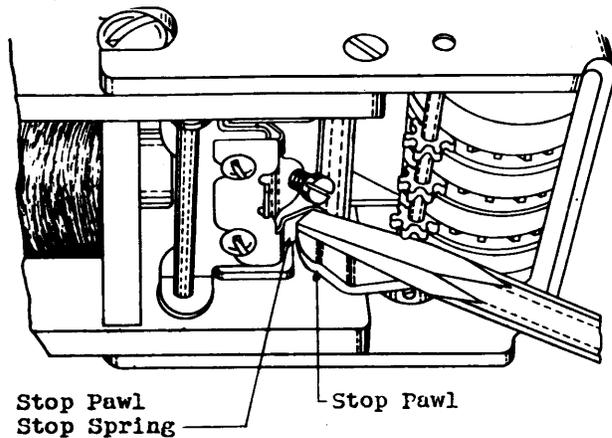
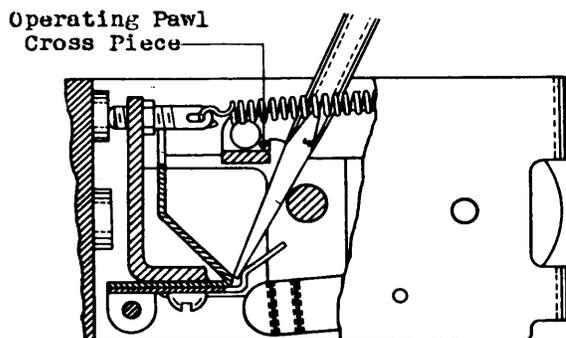

Fig. 12 – Method of Adjusting Stop Pawl Stop Spring for More Clearance
Fig. 13 – Method of Adjusting Stop Pawl Stop Spring for Less Clearance
(1) If there is insufficient clearance between the stop pawl and the stop spring, the units wheel cannot be turned manually without forcing when the armature is held in the nonoperated position. To obtain the required clearance, move the strip of registers forward as described in 3.002. Hold the armature in the operated position and carefully press upward and back against the tip of the stop spring with the blade of the 3-inch cabinet screwdriver as shown in Fig. 12. Extreme care should be used not to exert too much pressure since a very slight amount of clearance permits a relatively large movement of the units wheel. In case there is too much clearance, hold the armature in the operated position, insert the tip of the screwdriver blade between the rear of the stop spring and the armature bracket as shown in Fig. 13 and adjust the stop spring forward by carefully pressing the screwdriver blade against the operating pawl cross piece.